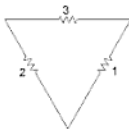

Fig. A2-7
24. The star transformation of the following circuit shown in Fig. A2-7 is